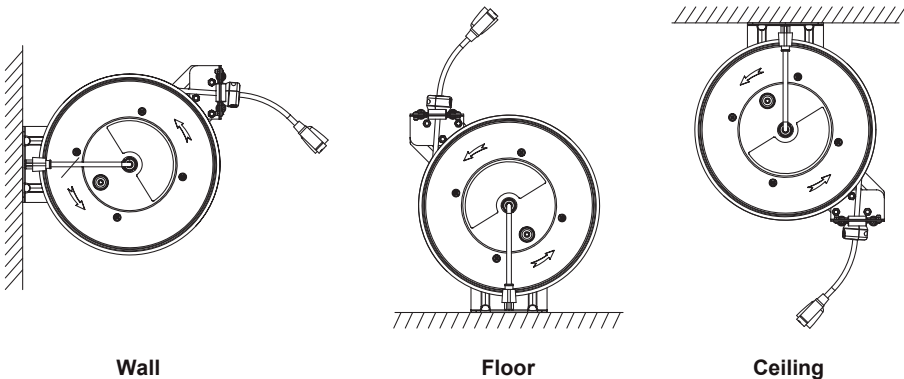

Fig.2
4. The reel is supplied with a hose guide roller bracket. The bracket position may be changed depending on the reel mounting position. Figure 2 shows "Typical Mounting Positions". If bracket position needs to be changed, do the following: